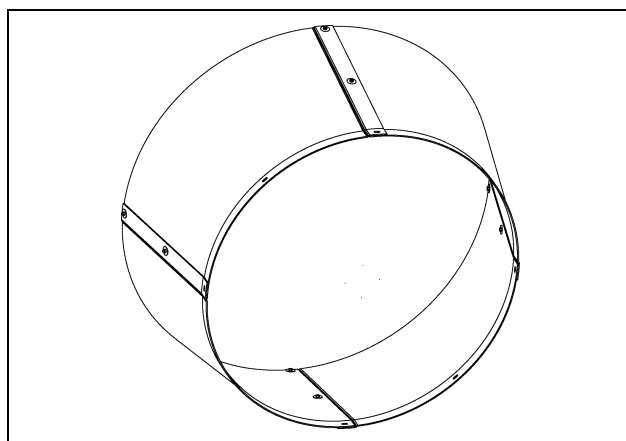

Figure 3D
2. When complete, the cone assembly should look like the cone in Figure 3D. Once assembled, position cone assembly outside the building and lift into position onto the fan housing. Push completely onto orifice and line up the inner holes of the orifice with the holes of the cone.